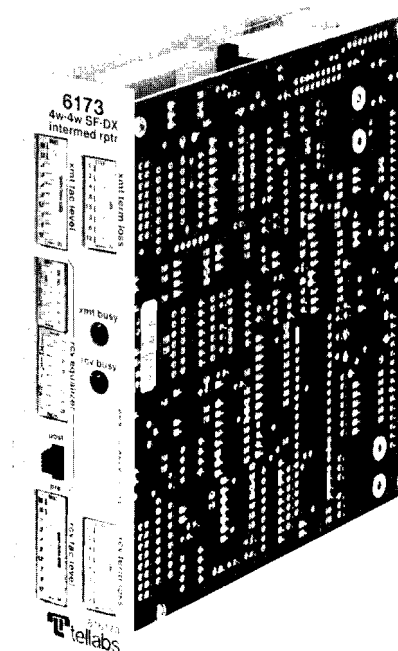

figure 1. 6173 4Wire-to-4Wire SF-to-DX
1.01 The 6173 4Wire-to-4Wire SF-to-DX Intermediate Repeater module (figure 1) provides both active transmission interface and bidirectional signaling conversion between a 4wire facility that uses 2600Hz single-frequency (SF) signaling and a 4wire trunk or line that uses duplex (DX) signaling. Providing greater signaling range than conventional E&M signaling, DX signaling is extended toward the termination via DX signaling leads to the facility pairs rather than via separate E&M signaling leads. The 6173 is designed in accordance with the specifications given in AT&T Technical Reference Pub 43001: Functional Criteria for Voice-Frequency Terminating Equipment/Metallic Facilities/Central Office.